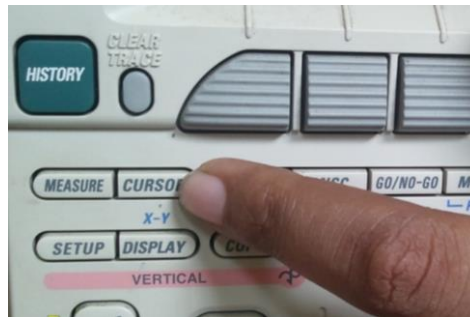

Figure 18: Cursor
1. Press the "cursor" button as shown in Figure 18.